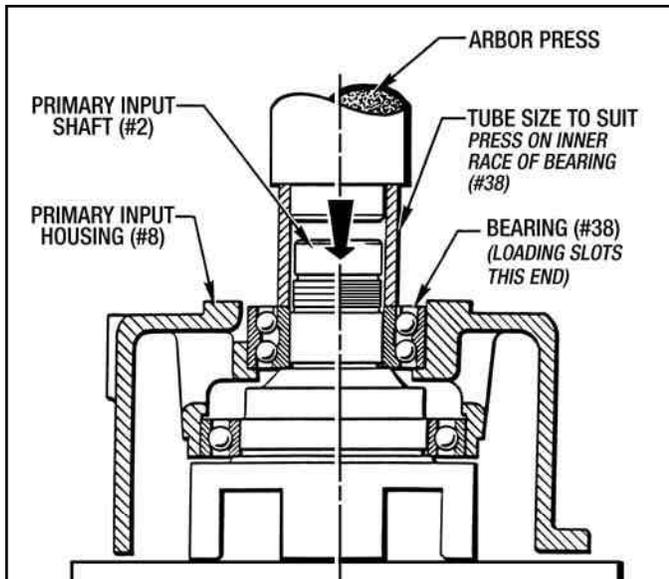

Figure 9.15 - Installing Bearing (#38) Into Primary Input Housing (Quill Input Shaft)
4. Set the Primary Input Shaft and Housing Sub-Assembly into an arbor press as shown in Figure 9.15. Using an appropriate sized tube, press on the inner race of Bearing (#38) until it bottoms out.